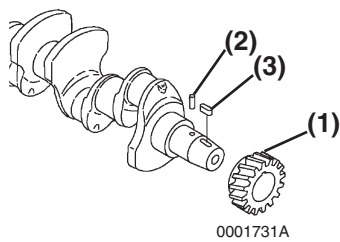

Figure 6-107
8. If necessary, remove the crankshaft gear (**Figure 6-107, (1)**), parallel pin (**Figure 6-107, (2)**) and key (**Figure 6-107, (3)**). If using a gear puller, be careful not to damage the threads in the end of the crankshaft.